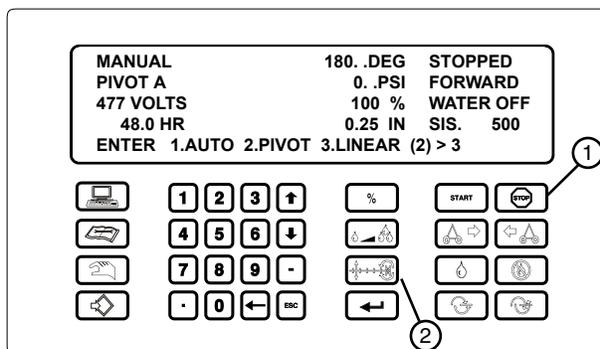

Figure 80-4 1. Stop Key 2. Pivot/Linear Key
8. Press  to stop the machine at the end of the pivot zone. See Figure 80-4.
9. Press  and **3** to return the machine to the linear mode. See Figure 80-4.